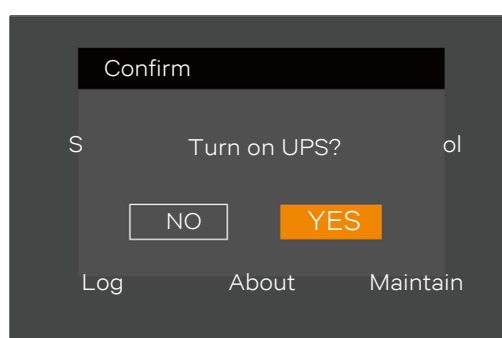

Figure 2-36 Turning on UPS
2. Press the power button for two seconds, the LCD prompts a dialogue box shown in Figure 2-36.